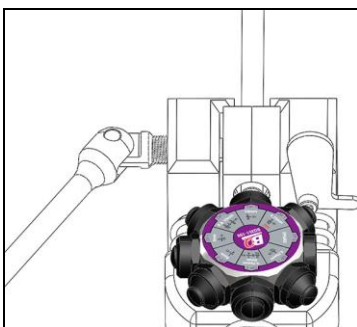

Figure 3
4. Rotate the turret until the required Operation 1 punch is aligned with the end of the tube (**Figure 3**).